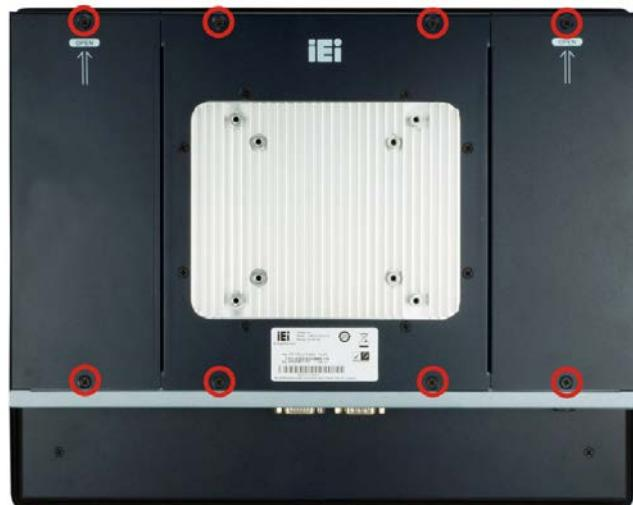

Figure 3-7: Rear Cover Retention Screws
Step 1: Remove the eight retention screws from the rear panel. Slide the two side covers upwards to remove them. And then, lift the center piece off the system. See **Figure 3-7**.